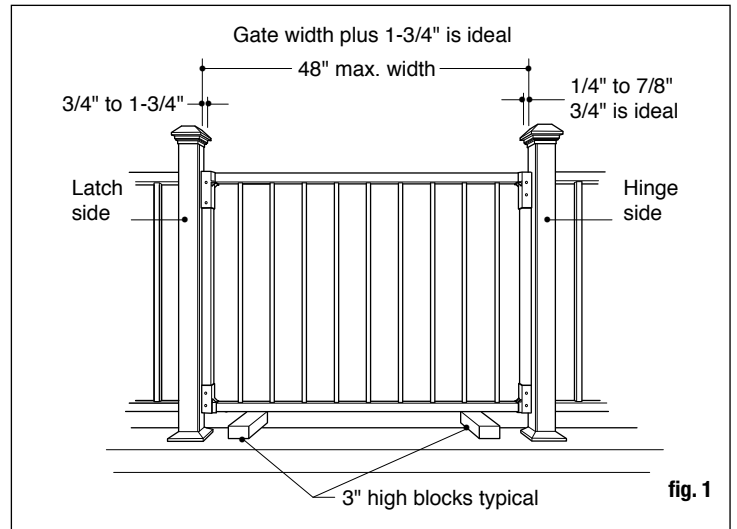

fig. 1
Step 2 The gate hinges can accommodate gaps from 1/4" – 7/8", but 3/4" is ideal. The latch can accommodate gaps from 3/8" – 1-3/4". Determine the desired spacing and subtract from opening. 1-3/4" is recommended but can range from 5/8" to 2-1/2" (fig. 1).
Step 8 Prop the gate by positioning precut blocks beneath the bottom rail and between the posts (fig. 1). Spacing of 3" is typical but can be more, or less as allowed by local building codes. Per the model building code all gaps must be less than 4". Ensure bottom of gate will be high enough to clear any obstacles, such as post base trim, if applicable.
Step 9 Make sure gate is plumb and level and attach hinges (E) to post.